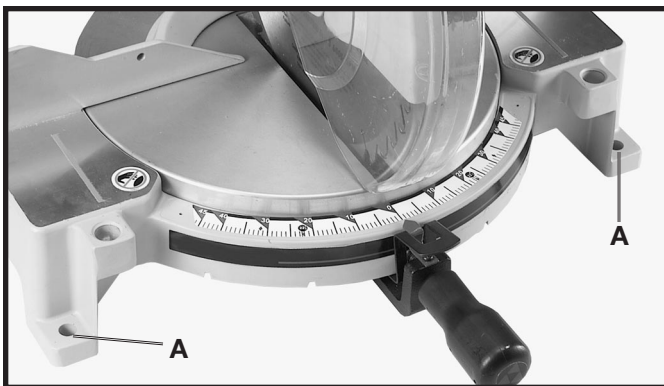

Fig. 9
Before operating your compound miter saw, make sure it is firmly mounted to a sturdy workbench or other supporting surface. Four holes are provided, two of which are shown at (A) Fig. 9.